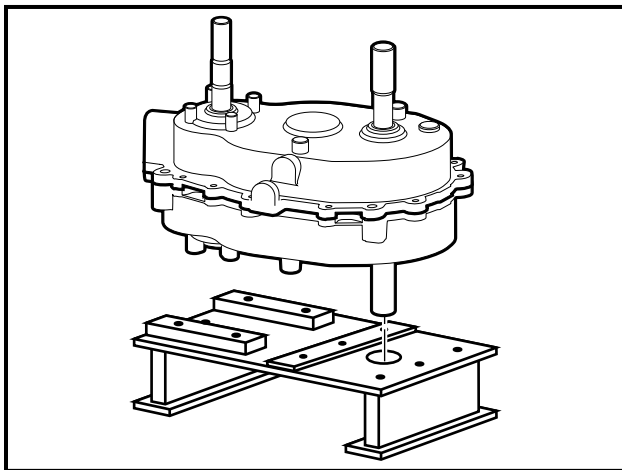

Figure 8-4 Position Case on Fixture
2. Position a service fixture, built like the one illustrated, with the through hole for the output shaft located to the right on a work bench. Clamp or secure the fixture to a work bench surface. Position the transmission housing with the front output shaft down and the housing bolt heads up (**Figure 8-4, Page 8-3**). See following **NOTE**.